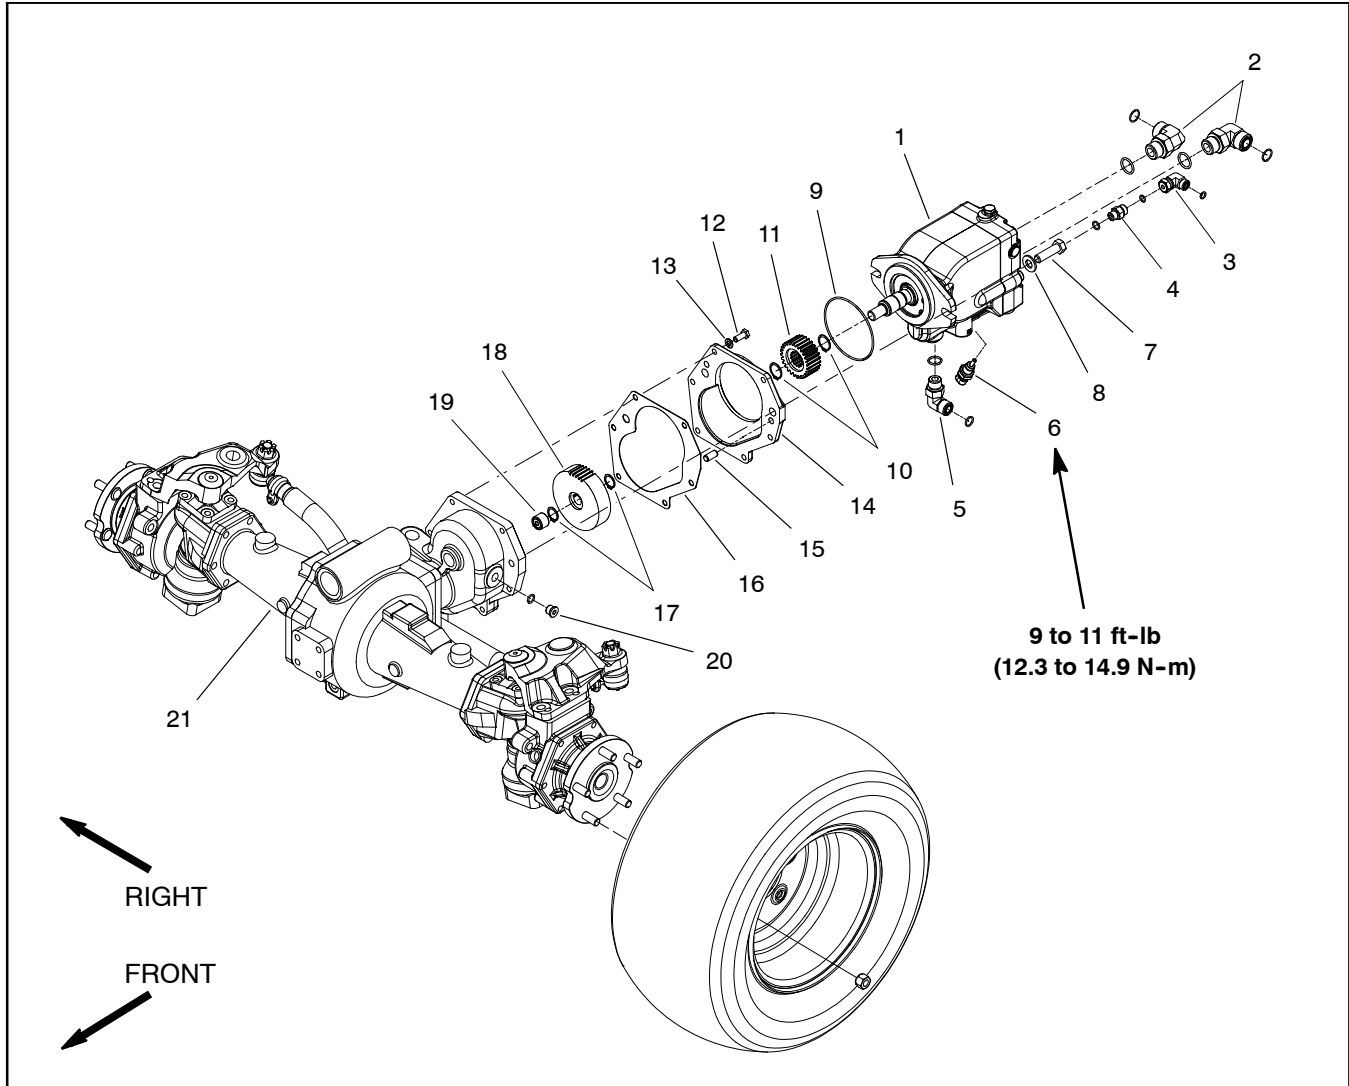

Figure 66
Removal (Fig. 66)
7. Remove motor from rear axle using Figure 66 as a guide.
9. If necessary, remove temperature sender (item 6) from rear axle motor.
10. If necessary, remove pinion gear (item 11) from rear axle motor shaft.
Installation (Fig. 66)